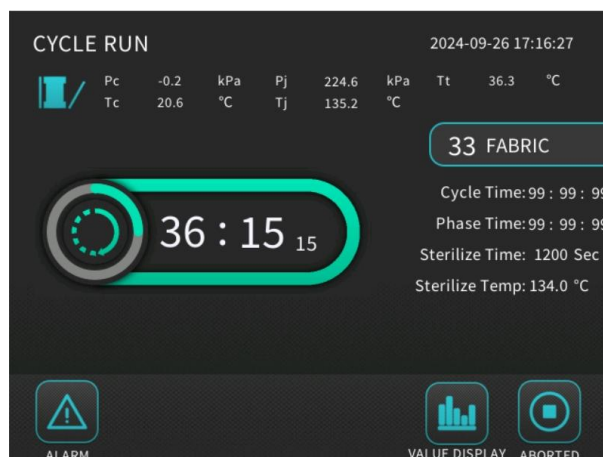

Figure 15
After logging in with different rights to select the start cycle, enter the select cycle screen in Figure 10, select the appropriate cycle, if you need to modify the parameters, click edit to modify the parameters, if there is no need to modify, directly click start, enter the startup parameters screen in Figure 11, and then click on the startup cycle to enter the main process screen in Figure 15.
2) In cycle running process, click on the value display button can monitor running count, running time, etc. in real time, in the main process screen displays the pressure and temperature in the sterilization chamber and shows what stage the equipment is currently in Figure 15 (when the cycle is running or has been running through the stage, there are text prompts above the stage, such as preparation).